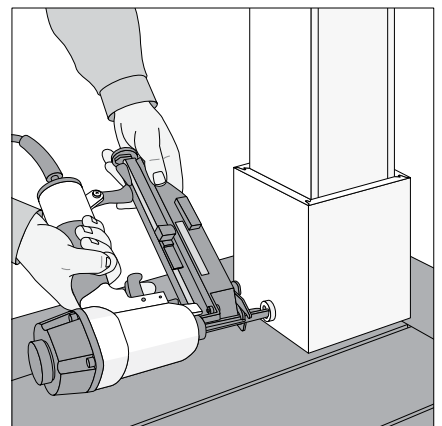

Fig. 6
- Secure the outer wrap to the KLEERWrap Post Wrap using stainless steel or galvanized brads or finished nails (**Fig. 6**).
- If possible, position the nails where they can be covered by mouldings (**Fig. 6**).